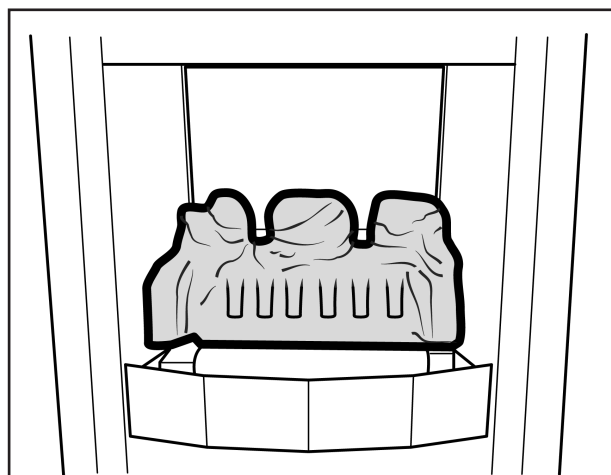

Figure 1. Rear base coal position
**1.** Place the rear base coal in the firebox. It should rest on the ledges at the rear sides of the burner unit. When located gently move the rear base coal so that it is as far forward as possible. The amount of movement will be negligible (See figure 1).